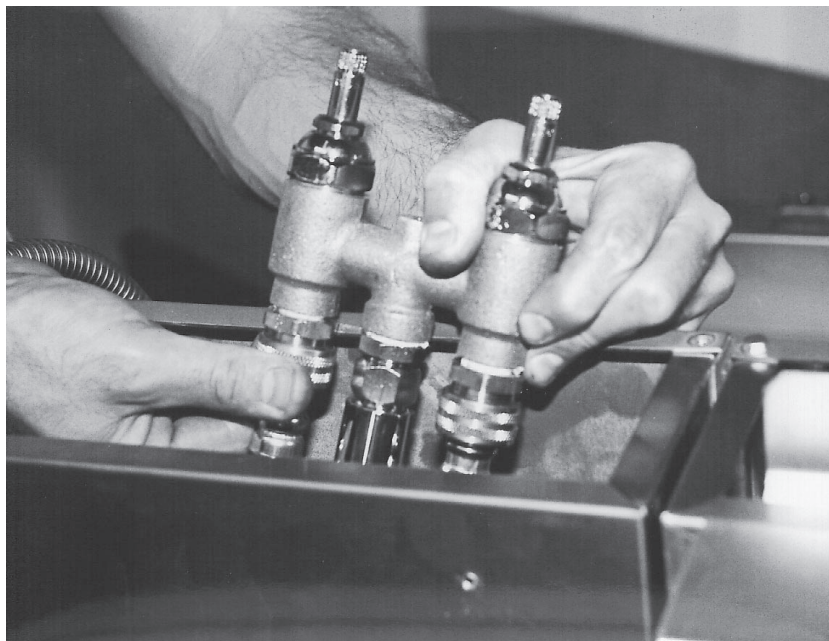

Fig. 54
6. Disconnect the hot and cold water hoses. (Fig. 54)